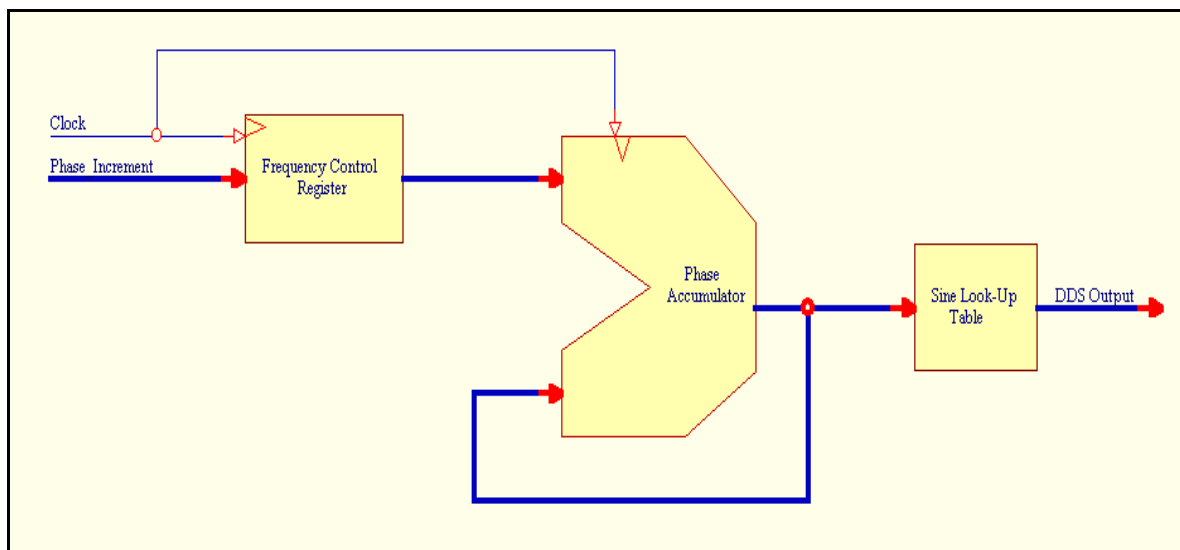

Figure 17: DDS Architecture
The architecture of a DDS has three main blocks, see Figure 17. The first block is labeled the Frequency Control Register (FCR). The FCR is used to latch the Phase Increment (PI) value and synchronize it with the rest of the DDS. The PI controls the phase and frequency of the